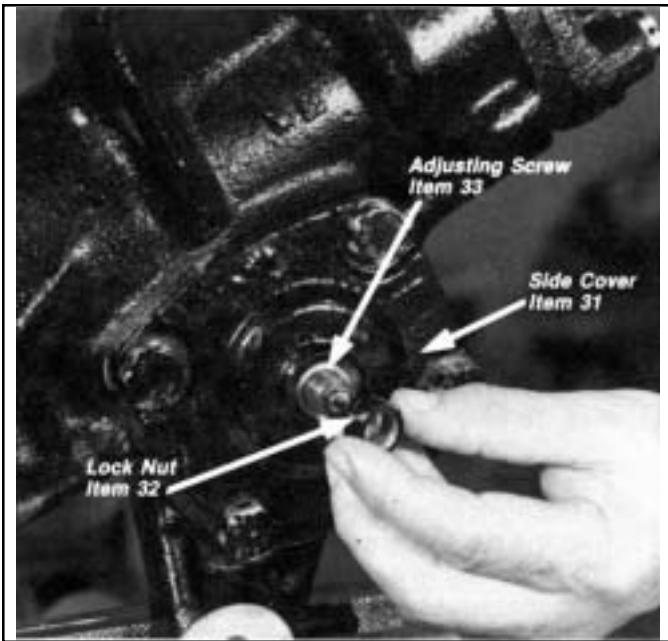

FIGURE 55 - INSTALLING ADJUSTING SCREW LOCK NUT
35. When the adjustment is correct, install lock nut (33) and apply a torque of 74 to 88 pound feet with a 19mm crow foot and torque wrench while holding the adjustment screw in position with the 7mm socket and torque wrench. Figure 55